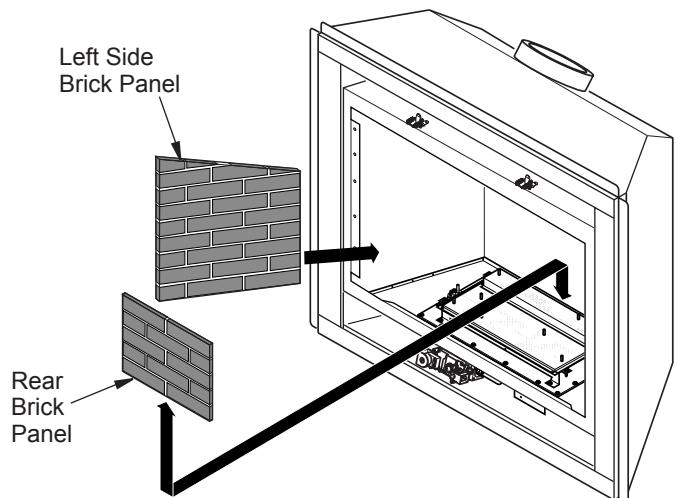

Figure 38 - Installing Brick Panels
5. Install rear brick panel first. Rest bottom edge of panel on back edge of grate (see Figure 38).
6. Install left side brick panel by sliding it between burner assembly and side of fireplace (see Figure 38).